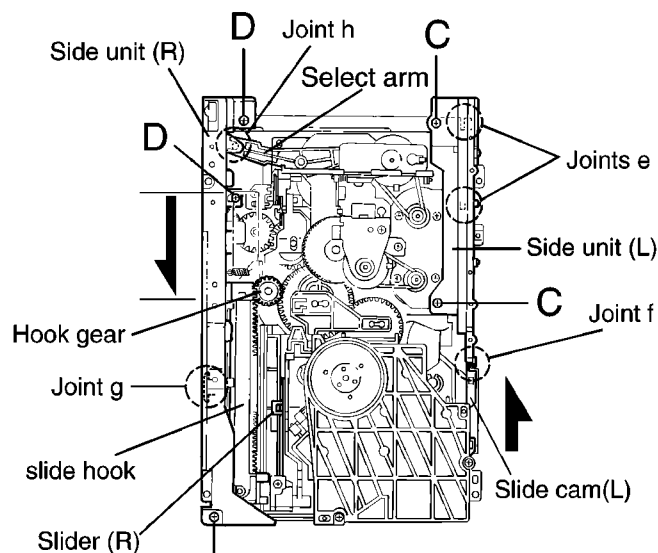

Fig.9-1
■ Removing the side unit (L) and (R) (See Fig.9-1 to 9-5)
1. Remove the two screws **C** attaching the side unit (L).
2. Slide and remove the side unit (L) toward the front while releasing the two joints **e** and the joint **f** with the chassis unit.
3. Slide the slide cam (L) toward the front until it stops to place the sub chassis unit at the top position.